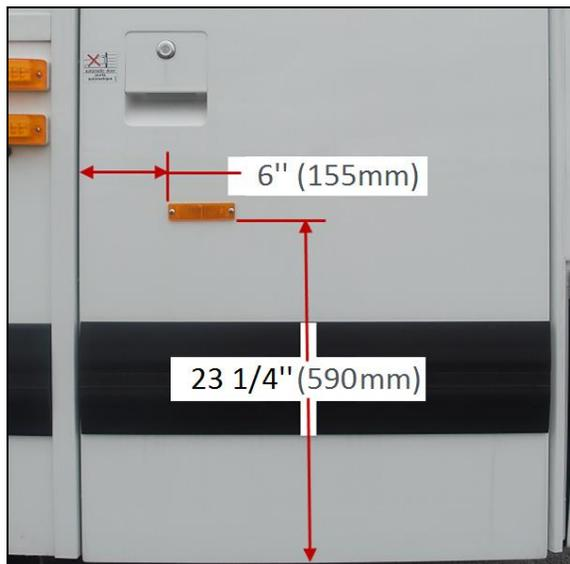
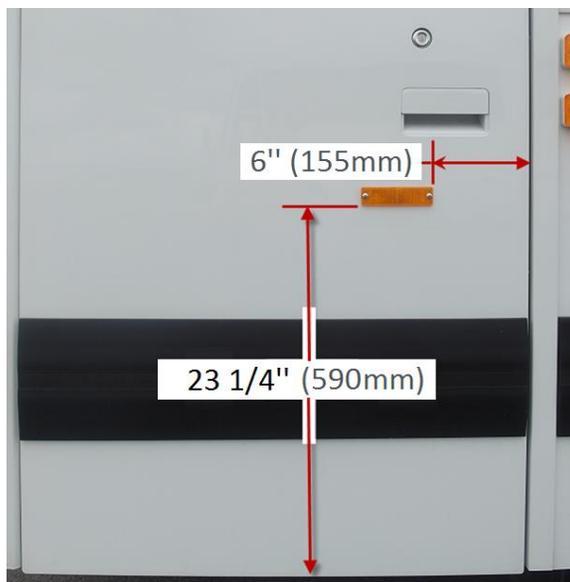

Figure 3
Figure 4
5. Use adhesive tape to install the copy on one door panel. For positioning dimensions, see Figure 3 for entrance door and Figure 4 for front service door. Make sure the apparent holes are at the same height to make the reflector final position horizontally.
11. Insert screws into the reflector holes and use it as guide to position the reflector #930212 on the entrance door panel as shown on Figure 3.
15. Insert screws into the reflector holes and use it as guide to position the reflector #930212 on the entrance door panel as shown on Figure 4.